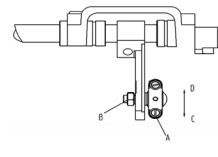
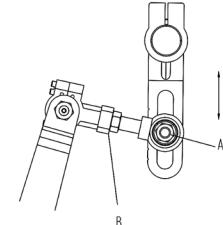

图31(Fig.31)
图32(Fig.32)
1.取下上盖, 拧松连杆(A)上的螺帽(B)。(图31)
3.微调时, 放松螺帽(A)将连杆(B)上下移动, 往上量多。(图32)
1.Take off cover and Release nut (B) on connector (A)。 (Fig.31)
2.Move connector (A) back and forth for more or less feeding length ,toward (C) direction reduce feeding length.
3.For micro adjustment ,release nut (A) and move connector (B) upward for longer and downward for shorter feeding length respectively 。 (Fig.32)